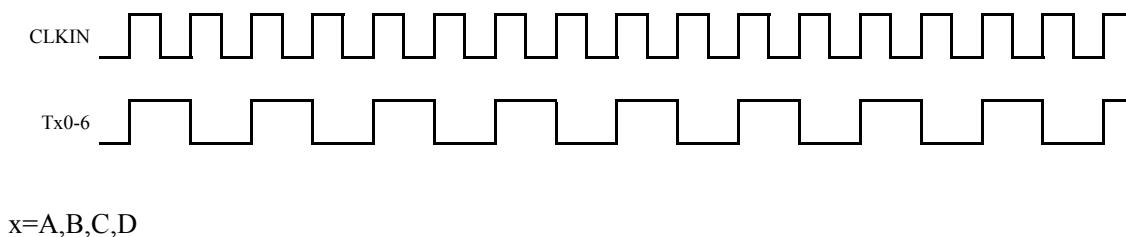

Fig.2 Worst Case Pattern
| | LVDS Transmitter Operating Current Worst Case Pattern (Fig.2) | RL=100Ω, CL=5pF, f=85MHz RS=VCC, (RS=GND) | 45 (36) | 67 (56) | mA |